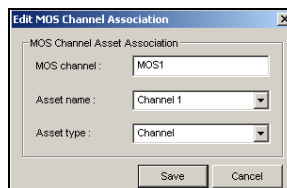

Figure 7-16. The MOS Channel Map's properties
3. Click the **PROPERTIES** button, or double-click the MOS Channel association's name. The **EDIT MOS CHANNEL ASSOCIATION** dialog box appears (figure 7-16).